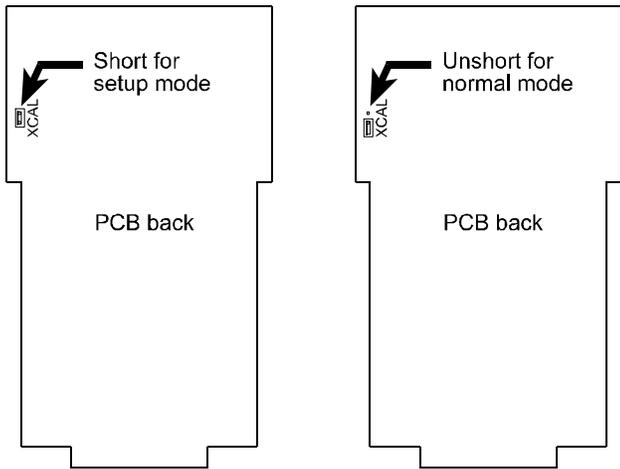

FIGURE 1
Disconnect UUT and turn the UUT off. Place the 830 into normal operating mode by unshorting the header located on the top left hand side of the board (See figure 1).
- When Calibration is completed, turn the UUT Off. Place the UUT into normal operating mode by unshorting JP201 (See Figure 1).